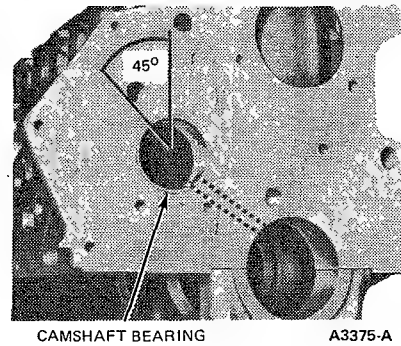

FIG. 42 Camshaft Bearing Position
1. Install new camshaft bearings. Make sure that the oil holes in the bearings and cylinder block are aligned. The splits in the bearings should be upwards and outwards at 45 degrees to the vertical (Figure 42).